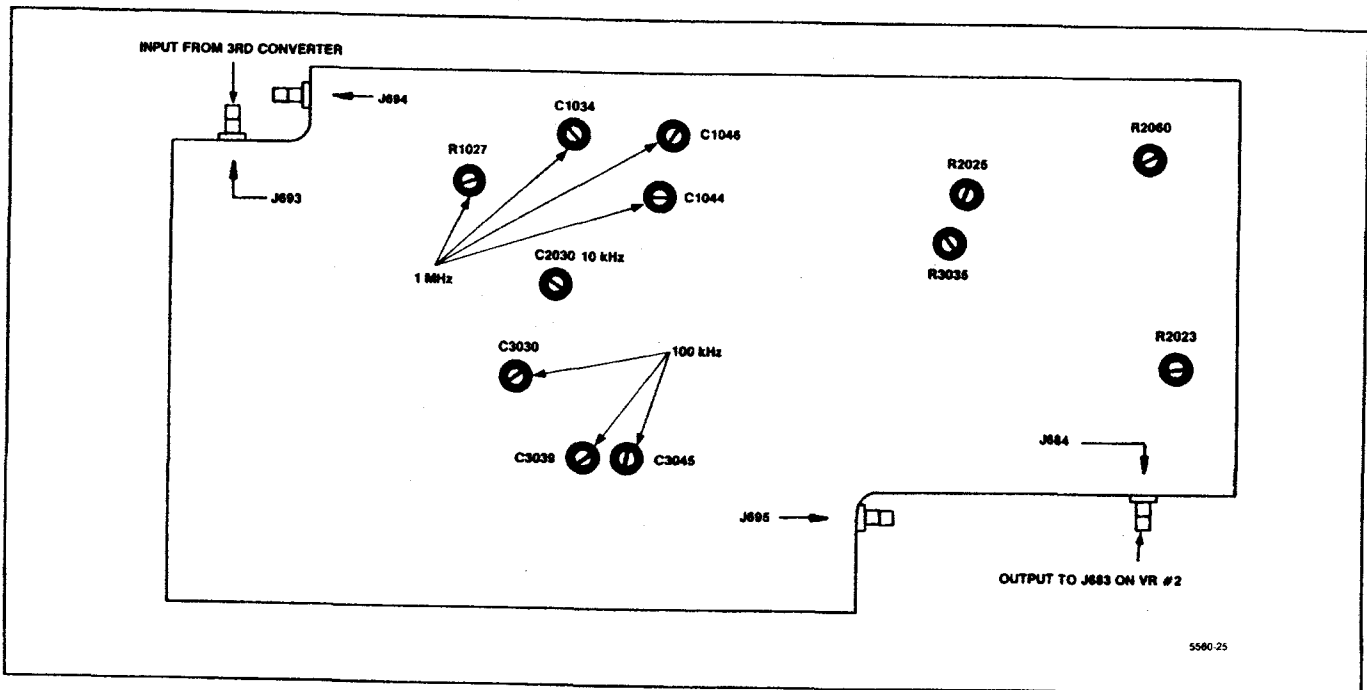
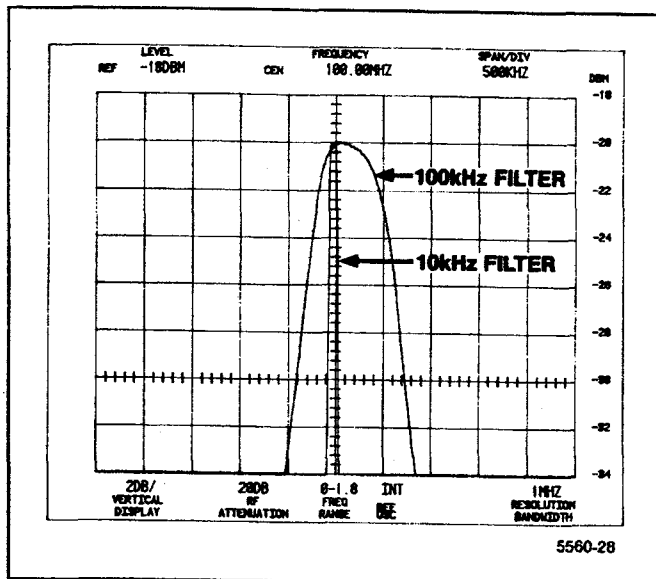
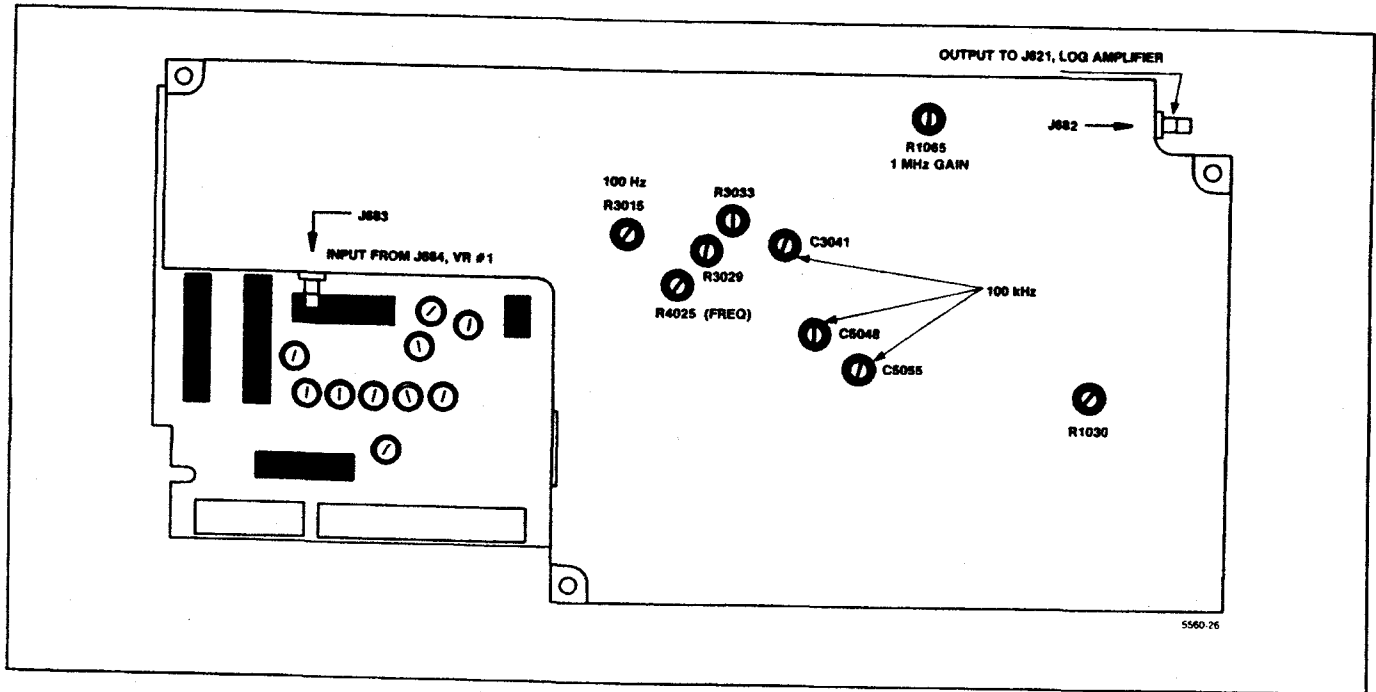

Figure 5-15. Adjustments on the rear of the Variable Resolution module.
Figure 5-16. 100 kHz over 10 kHz filter response.
Figure 5-17. Adjustments on the front of the Variable Resolution module.
d. Adjust the four tuning screws (capacitors) on the 110 MHz Bandpass Filter (FL36) for the best 3 MHz filter response (3 MHz bandwidth  $\pm 600$  kHz, 6 dB down) that is centered about the 10 kHz reference. Refer to Figure 5-16.
f. Adjust C1034, C1044, and C1046, and R1027 on the VR 2nd Filter Select board (Figure 5-15) for the best 1 MHz filter response (1 MHz bandwidth, 3 dB down, that is centered about the 10 kHz reference). Refer to Figure 5-16.
h. Adjust C5055, C5048, and C3041 on the VR 2nd Filter Select board (Figure 5-17) for the best 100 kHz filter response (100 kHz bandwidth, 3 dB down, that is centered about the 10 kHz reference). Refer to Figure 5-16.
(4) Adjust R4025 on the VR 2nd Filter Select board (Figure 5-17) for maximum signal amplitude.
- (29) Press RECALL SETTINGS 2.
- (30) Adjust C4060 in the 10 Hz/100 Hz Bandpass Filter assembly for best symmetry.
- (31) Repeat parts 28 through 31 to eliminate interaction.
- (32) Remove all jumpers from the 10 Hz/100 Hz Bandpass Filter assembly.
- (33) Press <Blue-SHIFT> CAL to start the internal calibration routine. Press FINE to continue calibration as prompted.
- o. Adjust C2030 (Figure 5-15) for the best 10 kHz response centered about the 1 kHz reference.
- r. Adjust C3045, C3039, and C3030 (Figure 5-15) for the best 100 kHz response centered about the 10 kHz filter reference.
e. Disconnect P693 (Figure 5-17) and activate MIN NOISE. Apply a 10 MHz,  $-25$  dBm signal, from the signal generator, through a bnc-to-Seaelectro adapter to J693. Set the generator frequency to peak the signal amplitude. (Signal amplitude should be between 3.5 and 6.5 divisions. If signal amplitude is not within these limits it indicates a gain problem in the Variable Resolution module.)
h. Switch MIN NOISE off, decrease the generator output to  $-35$  dBm, leave the REF LEVEL at  $-20$  dBm, and adjust the 10 dB Gain R3035, on the 10 dB Gain board (Figure 5-17) so the signal amplitude is 7 divisions.
i. Change the generator output to  $-45$  dBm, the REF LEVEL to  $-40$  dBm, and adjust the 20 dB Gain R2023 on the 20 dB Gain Step board (Figure 5-17) for a 7 division signal amplitude.
j. Change the generator output to  $-65$  dBm, the REF LEVEL to  $-60$  dBm, and adjust the 10 dB Gain R2060 on the 20 dB Gain Step board (Figure 5-17) for a 7 division signal amplitude.